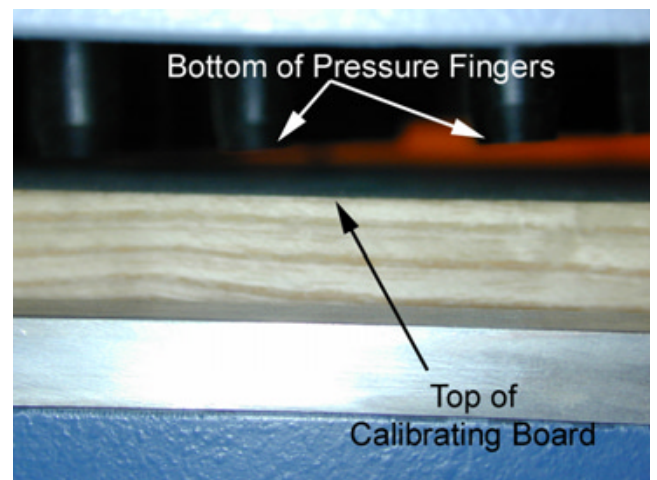

Figure 19
4. Use the DOWN button on the *carriage controls* to move the carriage down so that the *pressure fingers* are approximately $1/32$ ” above the *calibrating board*, as shown in the close-up photo in **Figure 19**.
7. Use the DOWN button on the to move the carriage down 0.05”, as indicated by the Present Value (PV) on the digital thickness controller.